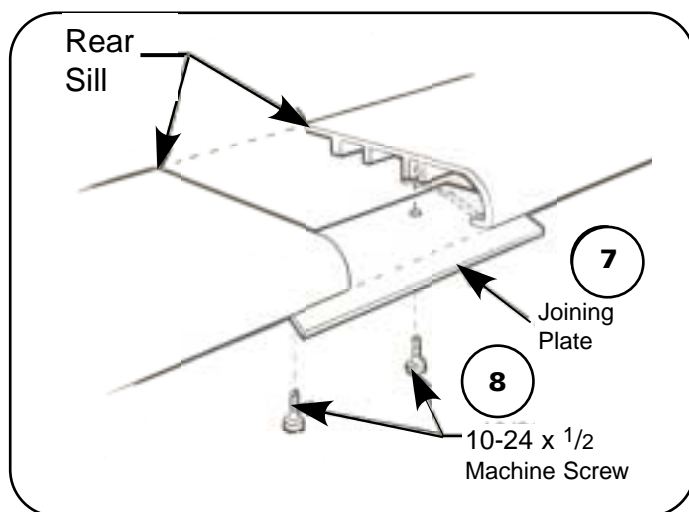

Figure 10. Joining Rear Sill
- 16** Align the **Rear Sill** and attach **Joining Bracket** (Item – 7) with **Washer Head Machine Screw** (Item – 8). See **Figure 10**.